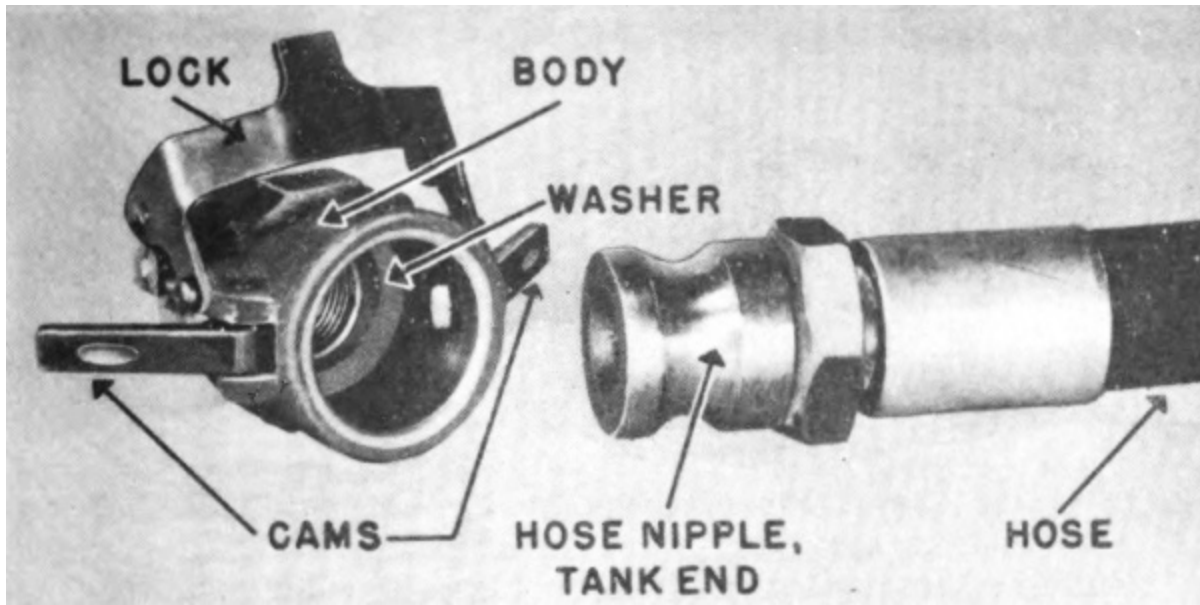

Fig 42. Tank coupling and end of fuel-hose assembly.
a. Description and functioning. This quick-connecting coupling (Fig 42) connects and locks the fuel hose or the coupling plug to the tank group. The coupling cams, lock, and washer provide a secure and tight joint. The tank coupling makes possible rapid replacement of emptied tank groups with filled and charged tank groups in the field. No tools are needed for this operation.